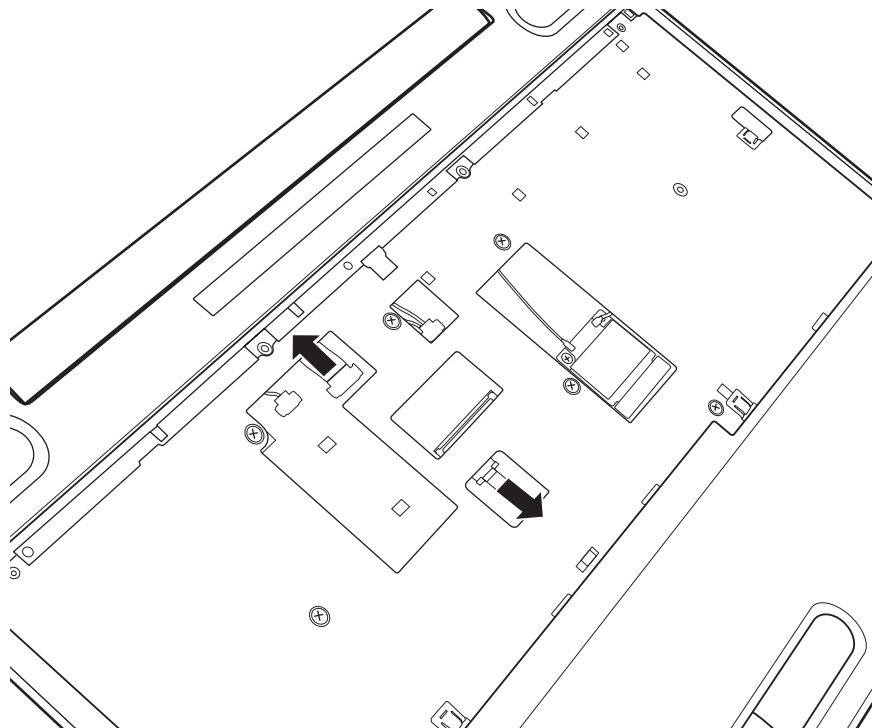

Figure 4.14 Detaching cables from under the keyboard
3. Detach one Power board FFC and one Touch Pad cable as shown in Figure 4.14.
2. Attach the two cables and secure the six screws as indicated in Figure 4.14 and 4.13.